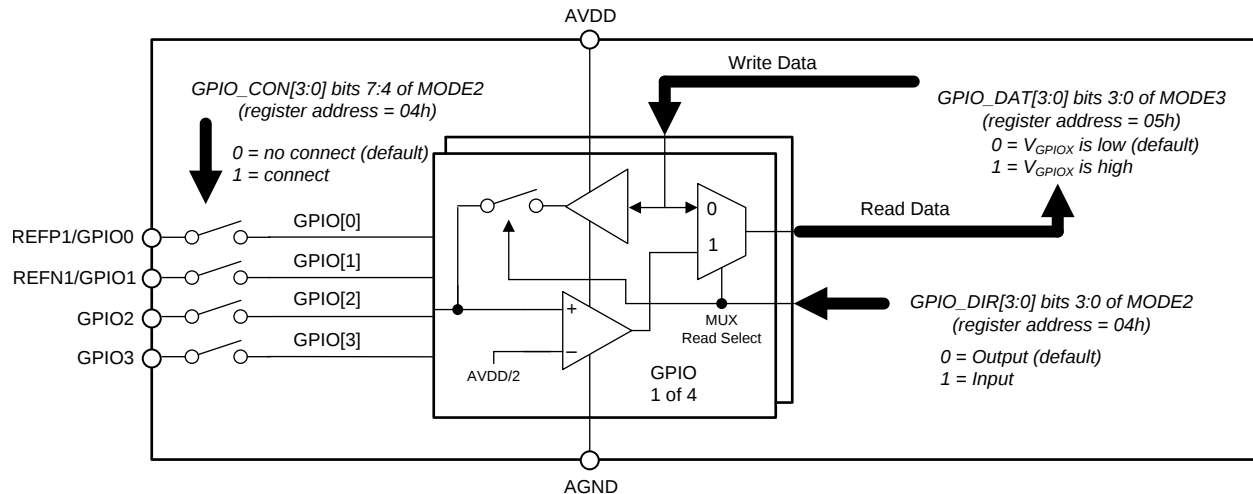

图 18. GPIO Block Diagram
The ADS125H02 provides four GPIO pins (GPIO3 through GPIO0), two of which are multiplexed with the external reference REFP1 and REFN1 input pins. The GPIO are digital inputs and outputs with values that are read and written by the GPIO_DAT bits of the MODE3 register. The GPIO input and output levels are referred to the 5-V analog supply (AVDD and AGND). As Figure 18 shows, the input threshold values between values logic 0 and logic 1 are $AVDD / 2$ (typical). The GPIO_CON[3:0] bits set the GPIO connection to the designated pin (1 = connected). The GPIO_DIR bits program the direction of the GPIO as an input (1) or output (0). The GPIO_DAT[3:0] bits are the data values for the GPIO. If a GPIO pin is programmed as an output, the value read is the register data that is written.